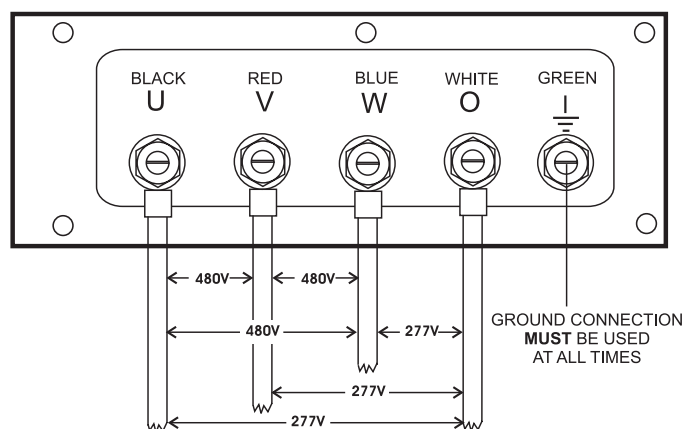

Figure 28. Output Terminal Lugs 480/277V Three Phase Connections
2. Connect the load wires to the **Output Terminal Lugs** as shown in Figure 28.